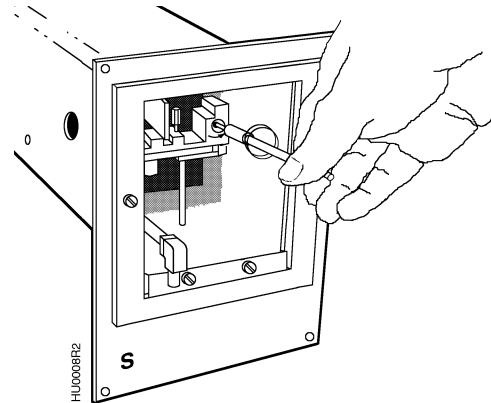

Figure 4.
- b. **Duct** - Remove plastic plug from faceplate and insert tool into duct housing as shown in Figure 4. After zero adjustment has been made, replace plug back into face plate.